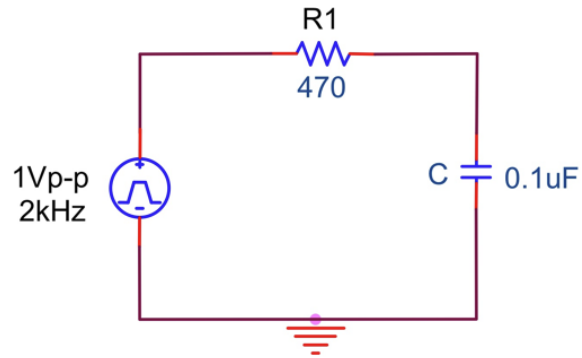

Figure 10.9
2. Construct the circuit in Figure 10.9.. Use the oscilloscope to observe, $v_c(t)$. Compare this to the theoretical time constant (be sure to include the internal resistance of the source).
1. Simulate Figure 10.9 and obtain the same output as your oscilloscope.